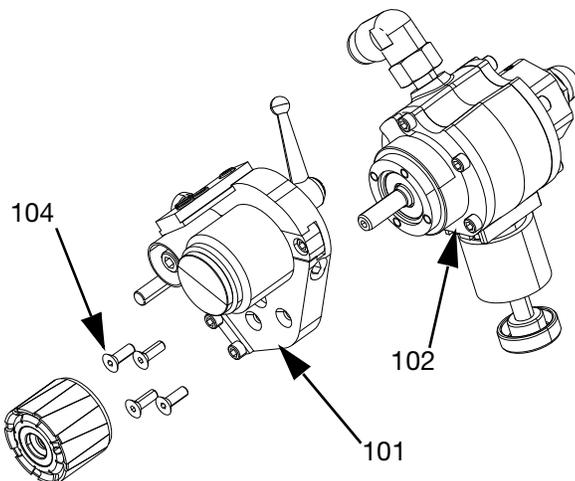

FIG. 10
Refer to FIG. 10 for the following steps.
2. Disconnect the air tube (160) from the cutter assembly.
3. Loosen the set screws (106) and pull gently to remove the cutter head assembly.
4. Remove the four screws (104) that secure the air motor (102) to the plate (101). See FIG. 10.
5. Separate the air motor (102) from the plate (101).